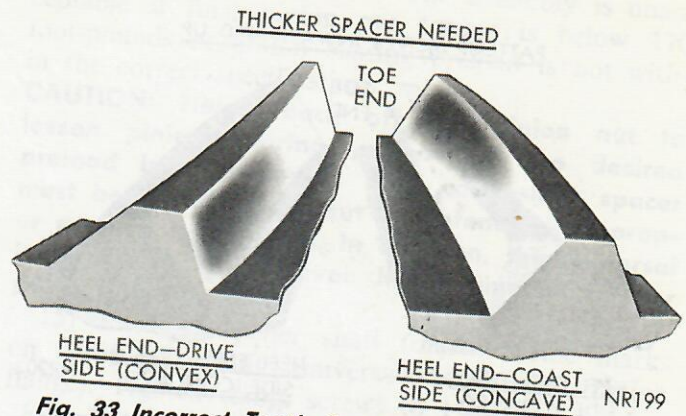
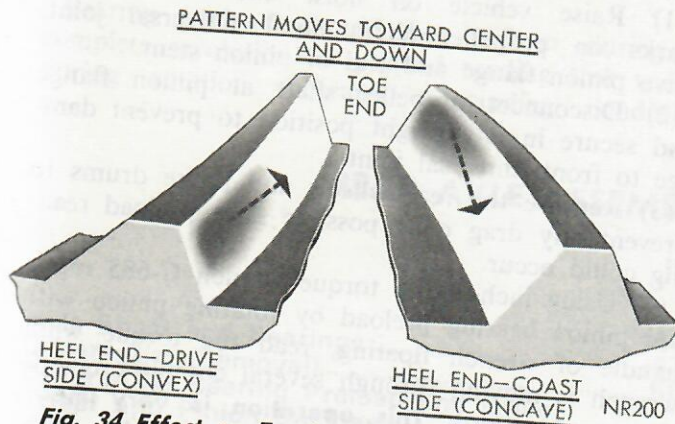

Fig. 33 Incorrect Tooth Contact Pattern (Increase Spacer Thickness)
Fig. 34 Effect on Tooth Contact Pattern as Spacer Thickness is Increased
(3) If after observing the contact pattern you find it resembles that in (Fig. 33), the drive pinion is too far away from centerline of the ring gear, the contact pattern will appear high on the heel on drive side and high on toe on coast side. To correct this type tooth contact pattern, increase the thickness of the rear pinion bearing mounting spacer (Fig. 34), which will cause the high heel contact on drive side to lower and move toward the toe; the high toe contact on coast side will lower and move toward the heel.